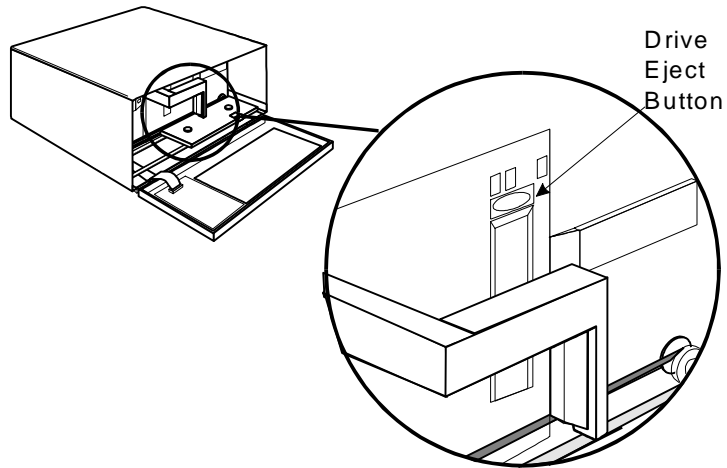

Figure 12. Drive Eject Button.
- Press the eject button on the drive (see Figure 12).
- If the drive does not eject the cassette when the program is finished, open the VLS door (the gripper arm should still be fully extended) and press the drive eject button (refer back to Figure 12 if necessary). It will take about 30 seconds for the drive to eject the cassette.
- ❑ Press the eject button on the drive (see Figure 12). It may take 30 seconds or more for the drive to eject the cassette.